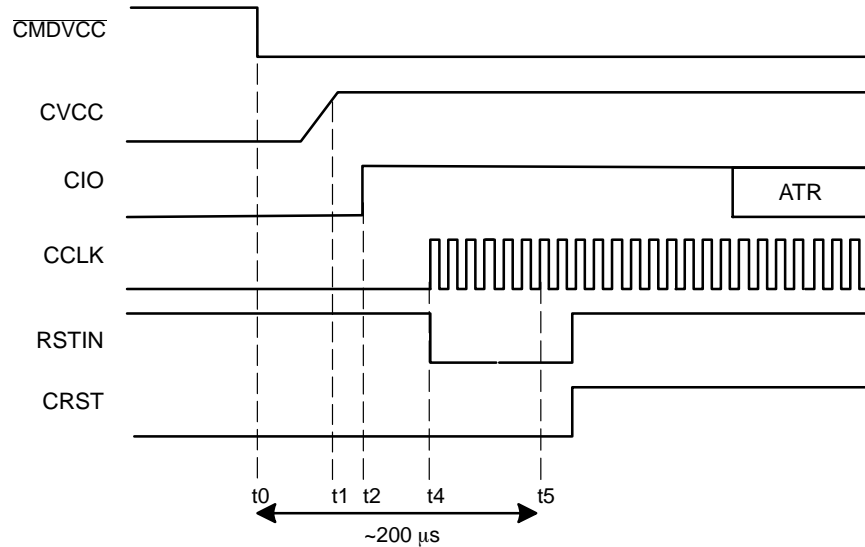

Figure 5. Activation Sequence – RSTIN Mode (RSTIN Starting High)
The clock can also be applied to the card using a **RSTIN mode** allowing controlling the clock starting by setting RSTIN Low (Figure 5). Before running the activation sequence, that is before setting Low \overline{CMDVCC} RSTIN is set High. The following sequence is applied:
- Between t2 (Figure 5) and t5 = 200 μs, RSTIN is reset to LOW and CCLK will start precisely at this moment allowing a precise count of clock cycles before toggling CRST Low to High for ATR (Answer To Reset) request.